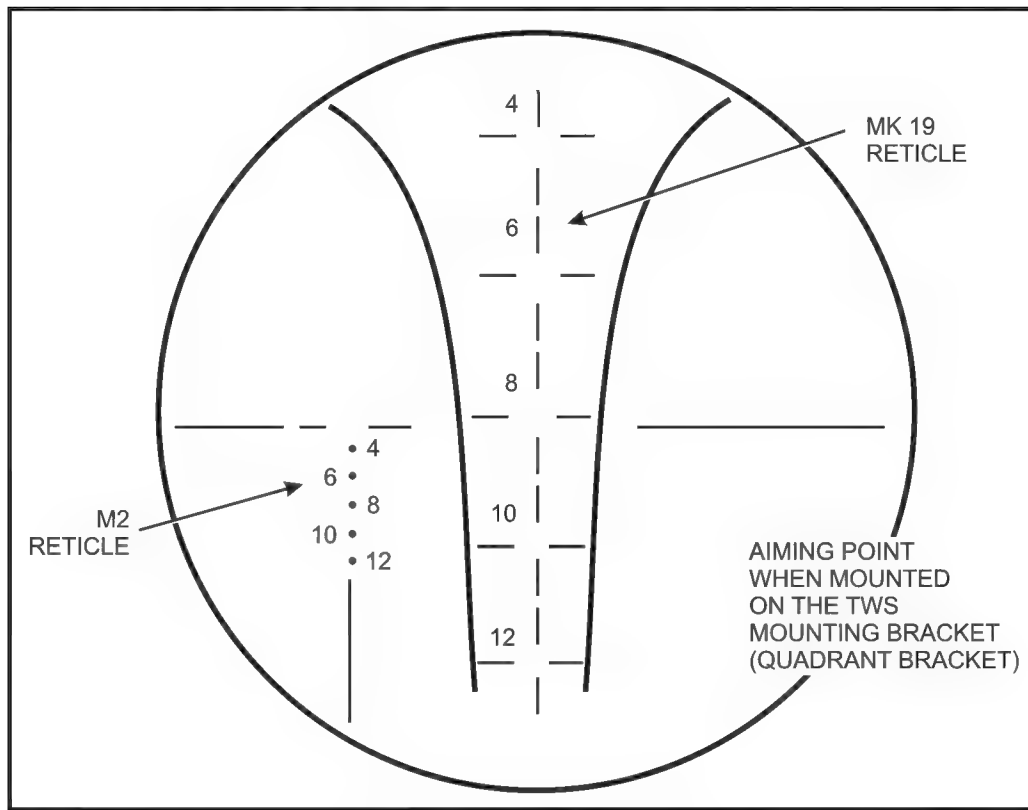

Figure G-15. AN/TVS-5 reticle for the MK 19 and M2 machine guns.
(1) The ON-OFF/TUBE BRIGHTNESS control applies power to the sight and controls the brightness of the image intensifier tube. It also enables the ON-OFF RETICLE BRIGHTNESS control to function.
(2) The ON-OFF RETICLE BRIGHTNESS control applies power to the reticle and controls the brightness of the reticle.
(3) The OBJECTIVE FOCUS RING adjusts the range focus from 25 meters to infinity.
(4) The DIOPTER FOCUS RING adjusts the focus of the eyepiece.
(5) The DIOPTER INDICATOR indicates the direction of rotation of the DIOPTER FOCUS RING for + and diopeters.
(6) The RETICLE ELEVATION ADJUSTMENT ACTUATOR controls the reticle adjustment in the up and down direction. Each click of adjustment moves the strike of the round 1.0 inch at 100 meters.
(7) The RETICLE AZIMUTH ADJUSTMENT ACTUATOR controls reticle adjustment right or left. Each click of adjustment moves the strike of the round 1.0 inch at 100 meters.
b. **AN/TVS-5 Sight Reticle.** The MK 19 and the M2 machine guns share the same AN/TVS-5 sight reticle (Figure G-15).